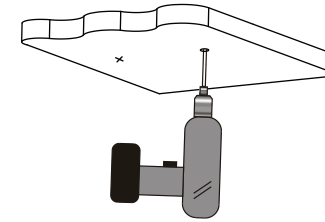
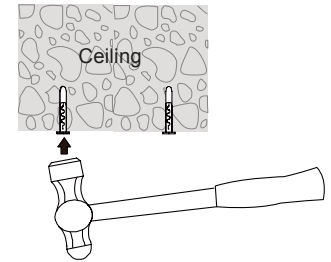

Figure 7
Figure 8
- 4, With a drill with a 6.5mm drill in the mark at the two mounting holes (Figure 7), the plastic expansion body into the hole (Figure 8). Place the product in a dust-free location when drilling the mounting hole;